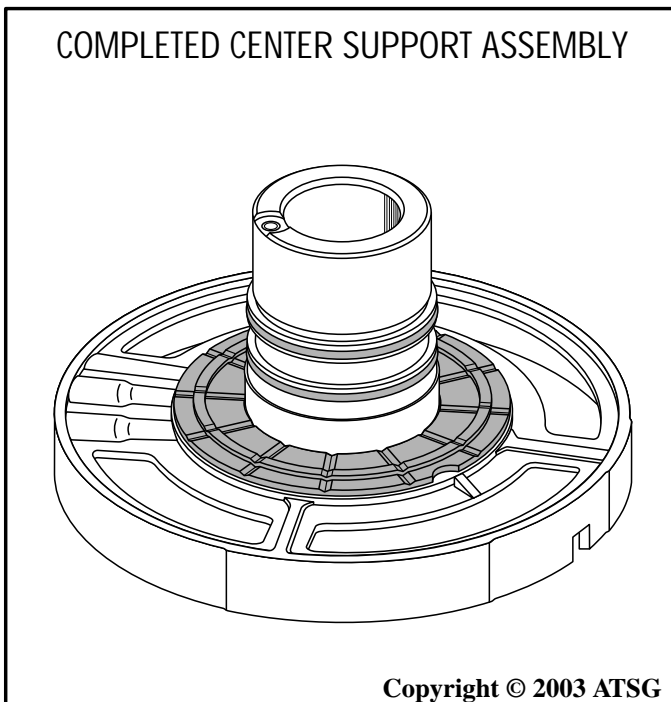

Figure 135
11. Set the completed center support assembly aside for final assembly (See Figure 135).